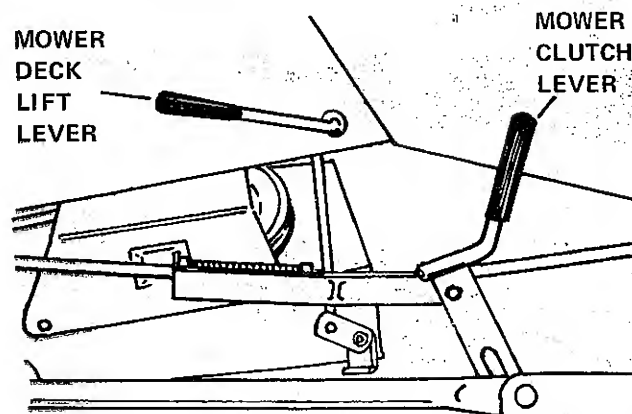
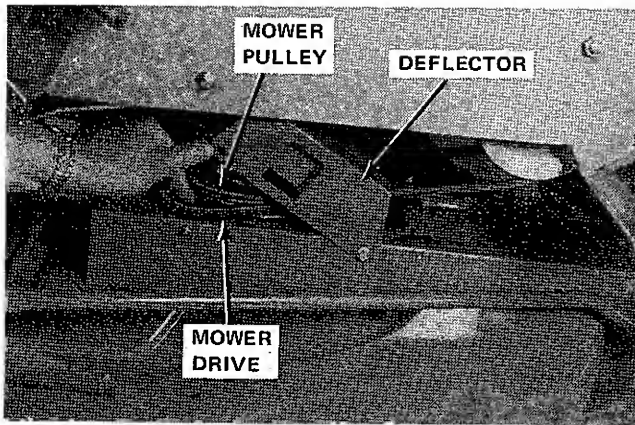

Figure 6-5 Mower Clutch Lever and Deck Lift Lever
Figure 6-7. Mower Drive Belt and Pulley
1. Remove mower from unit by disengaging the mower clutch lever, and also disengaging the mower deck lift lever. (Figure 6-5).
3. Lifting deflector, disengage mower drive belt from mower pulley (Figure 6-7). To separate belt from pulley, it may be necessary to move entire mower forward slightly.
2. Lifting deflector, reinstall mower drive belt on mower pulley. (Figure 6-7). Mower clutch lever must be in disengaged position or to the rear and up (Figure 6-5).